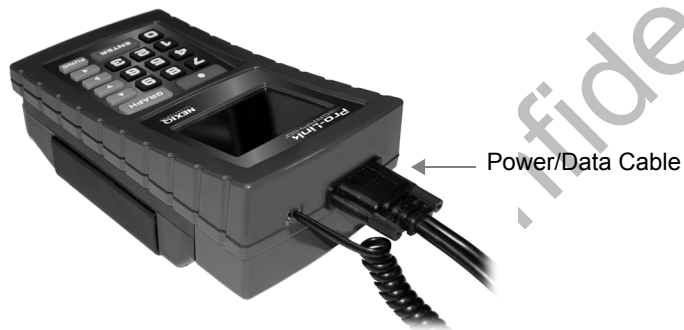

Figure 3.3 Power/Data Cable Connected to Pro-Link GRAPHIQ™
- 2** Attach the Power/Data Cable’s (Figure 3.3, page 14) DB15 Adapter into the Data Port on the Pro-Link GRAPHIQ™; tighten the thumbscrews.